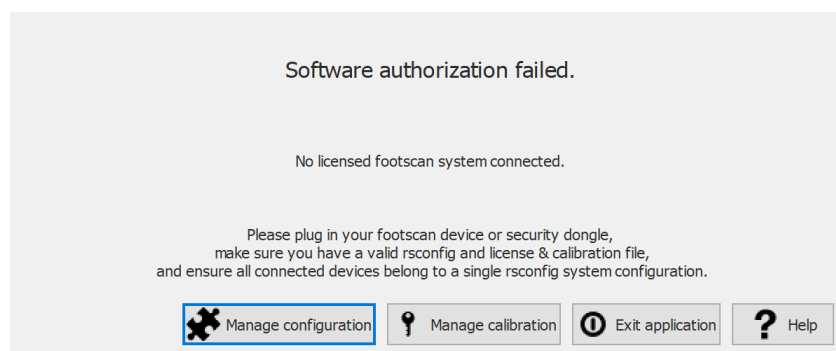

Figure 9: The license and hardware calibration dialog can be opened in the security dialog.
1. By clicking the **Manage calibration** button in the Security Dialog (Figure 9). More information about the security dialog can be found in section 4.1.